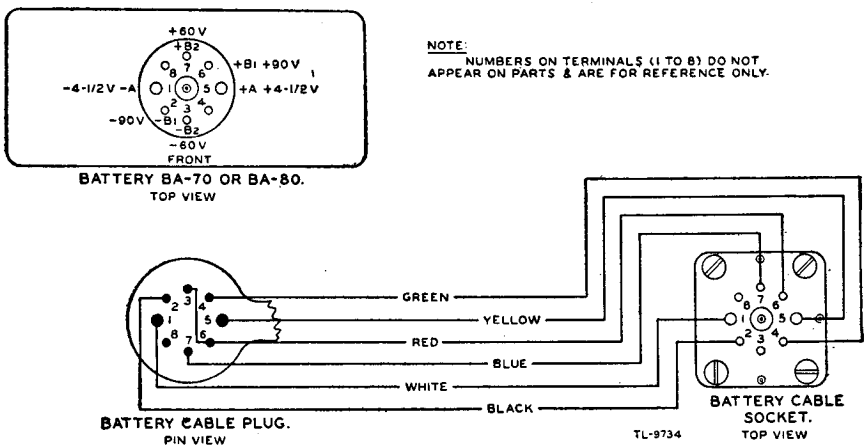

Figure 74. Battery BA-70—top view, and battery wiring diagram.
- BATTERY CHECKING.** Check the battery with a voltmeter and shunt load resistor. Each section of the three-section battery is checked separately using the information in table XIV. The voltmeter and shunt resistor are held across the proper terminals as shown in figure 74 for 15 seconds. Do not test for a longer period.